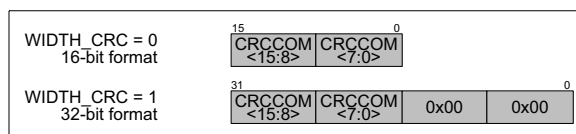

**FIGURE 6-9:** Continuous Read Sequences With and Without CRC Checksum Enabled.
The communication data on the `SDO` pin can be secured through the insertion of a Cyclic Redundancy Check (CRC) checksum at the end of each continuous reading sequence. The CRC checksum on communications can be enabled or disabled through the `EN_CRC` bit in the `STATUSCOM` register. The CRC message ensures the integrity of the read sequence bits transmitted on the `SDO` pin, and the CRC checksum is inserted in between each read sequence (see Figure 6-9).
**Note:** The CRC will be generated only at the end of the selected address set, before the rollover of the address pointer occurs (see Figure 6-9).